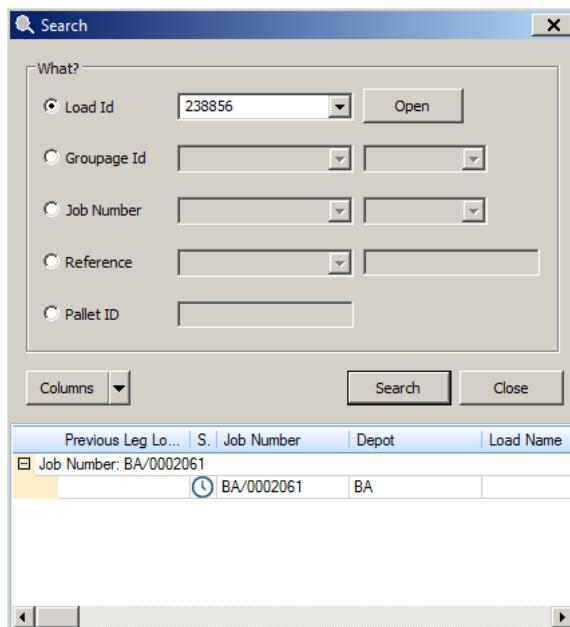

Figure 144
1. Click  to access the Search window (Figure 144)
All legs/Jobs found will be displayed in the Search for window (Figure 144)